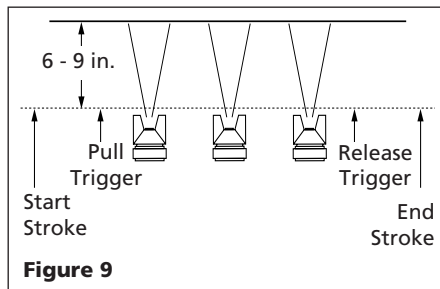

Figure 9
- Trigger the gun properly. Start the gun moving at the beginning of the stroke **BEFORE SQUEEZING THE TRIGGER** and release the trigger **BEFORE STOPPING GUN MOVEMENT** at the end of the stroke. This procedure will feather (blend) each stroke with the next without showing overlap or unevenness (See Figure 9).